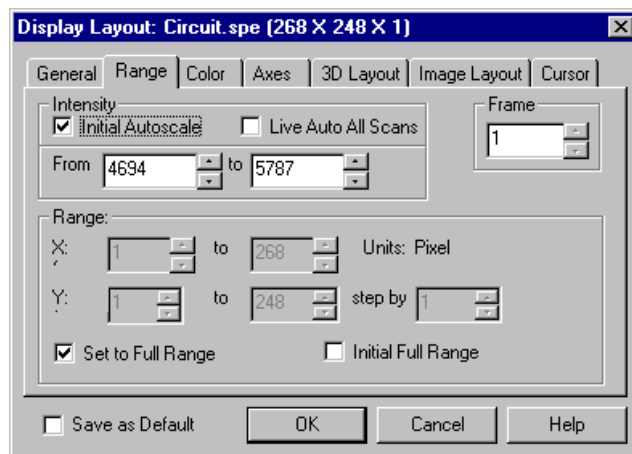

Figure 103. Range tab page
2. Click on the **Range** tab to move the Range tab page (Figure 103) to the front. **Initial Autoscale** and **Set to Full Range** should be selected. The Frame number should be "1."